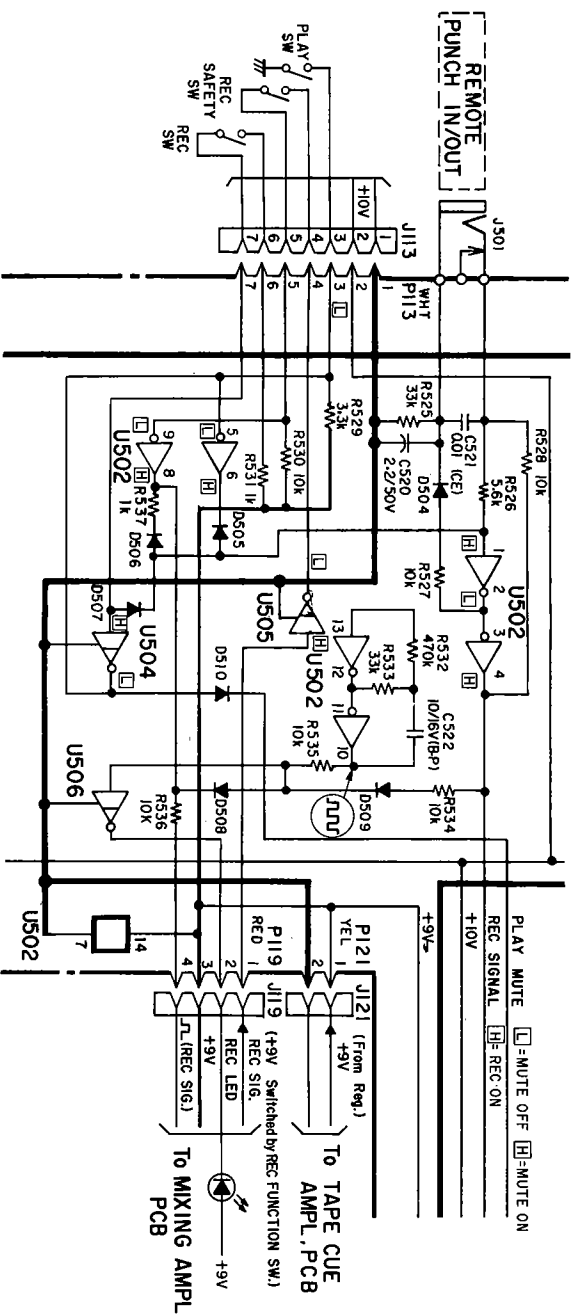
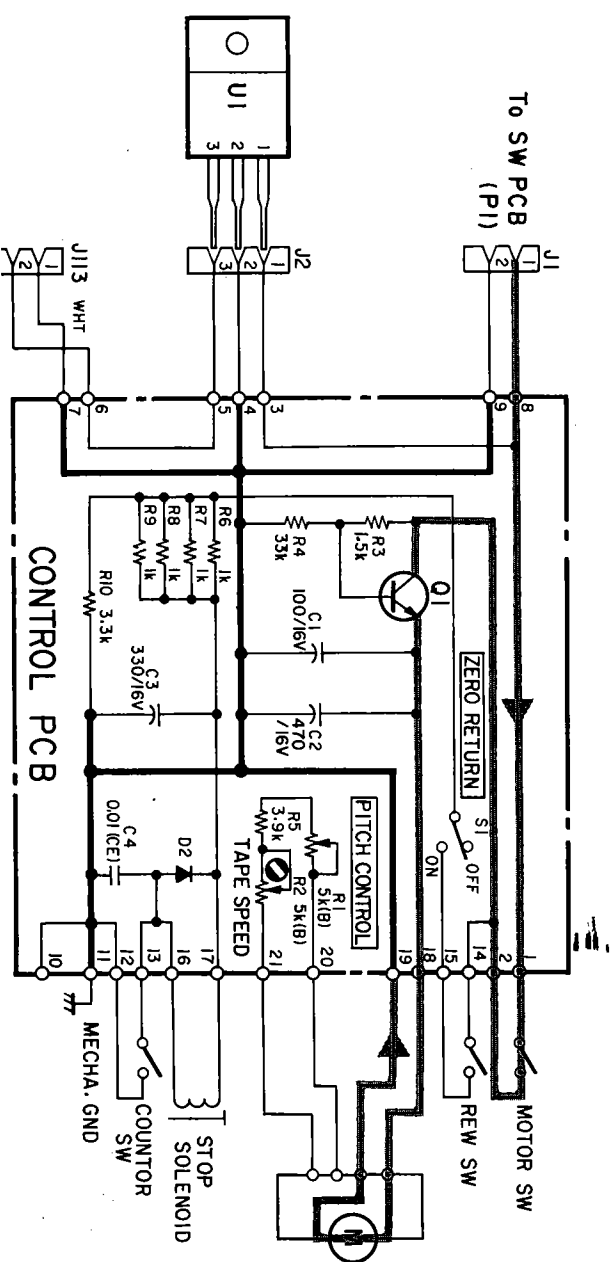

Fig. 3-2 Control logic circuit
Fig. 3-3 Motor control circuit
Fig. 3-2 shows the control logic circuit and Fig. 3-3 the motor control circuit.
When the PLAY key is pushed, the PLAY SW in Fig. 3-2 is closed and pin 3 of P113 is grounded. As a result, the PLAY JTE signal line (D510 cathode side) goes "L", and the "L" level signal is used as a signal to release the PLAY MUTE operation.
With the PLAY key pushed, the MOTOR SW shown in Fig. 3-3 is closed, and a current flows from pin (1) of J1 into the motor passing through MOTOR SW, and Q1.
When the REC key is pushed, the REC SW shown in Fig. 3-2 is closed and pins 6 and 7 of P113 are connected. As a result, the cathode side of D507 goes "H", and the output side of U504 goes "L".
When the REC key pushed, the MOTOR SW shown in Fig. 3-3 is closed and the motor rotates in the same way as in Play mode. When pin 8 of U502 is "H" and pin 4 of U502 is "H", pin 4 of U502 develops "H" level signal and the "H" level signal is fed to the mixer amplifiers as the Record-ON signal.
1. When the PAUSE key is pushed under record condition, the PLAY SW shown in Fig. 3-2 is opened. However, the voltage level on pin 3 of P113 is not changed as the output side of U504 is maintained at "L" level.
2. On the other hand, when the PAUSE key is pushed during the Punch-in operation, the PLAY SW shown in Fig. 3-2 is also opened and pin 5 of U502 changes to "H" and pin 6 to "L". Then, pin 1 of U502 changes to "L", pins 2, 3 to "H", and pin 4 to "L", thus the recording condition is disabled. That is, a condition the same as the PLAY PAUSE will be created.